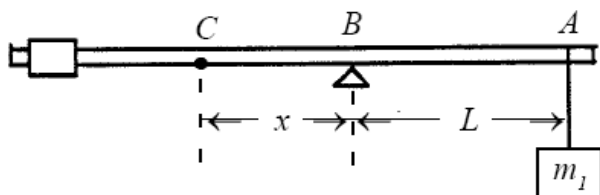

Figure 8.4. Loaded ruler balanced at B
4. Hang a mass  $m_1$  of arbitrary value from point A near the other end of the ruler. Adjust the support point of the loaded ruler from C to B until the ruler is again in static equilibrium (see Figure 8.4). Record the value of  $m_1$  and the moment arms  $L$  and  $x$  in Table 8.3 (the weight  $W$  of the loaded ruler is considered as acting at point C a distance  $x$  from the pivot).